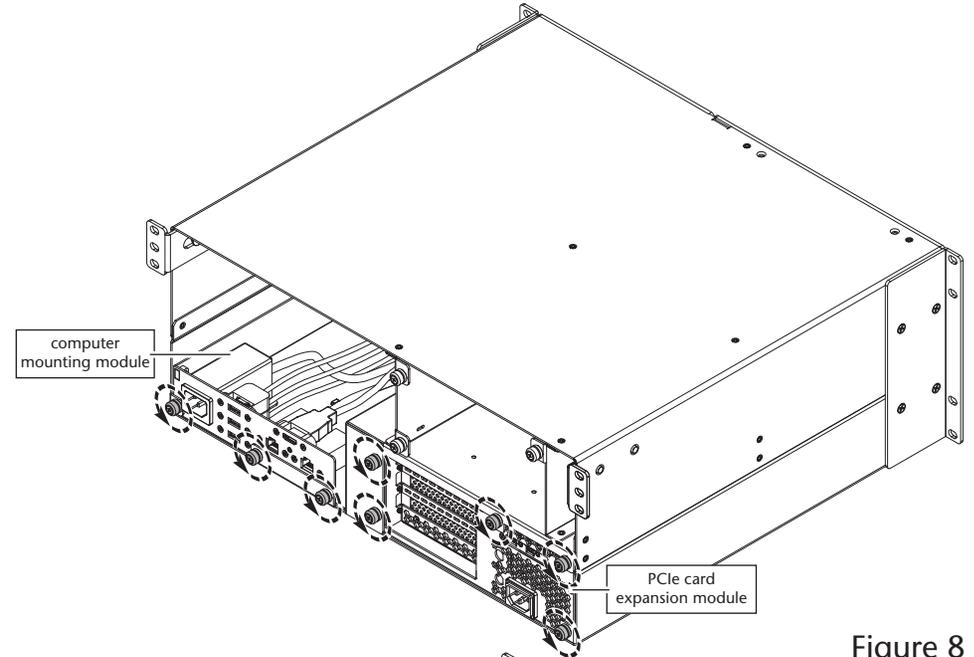

Figure 8
3. Loosen the eight thumbscrews securing the computer mounting module and PCIe card expansion module to the back of the rackmount enclosure (**Figure 8**).